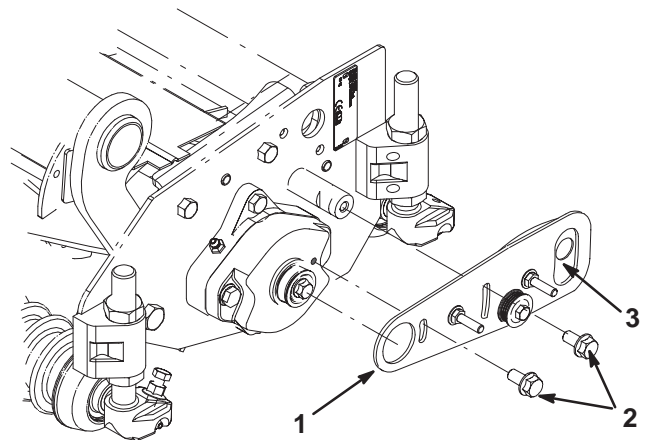

Figure 8
11. Loosely assemble pivot plate assembly to roller housing and threaded spacer with (2) 5/16-18 x 5/8" lg. flange bolts (Fig. 8).
12. Loosen guard plate bolt for adjustment later (Fig. 8).